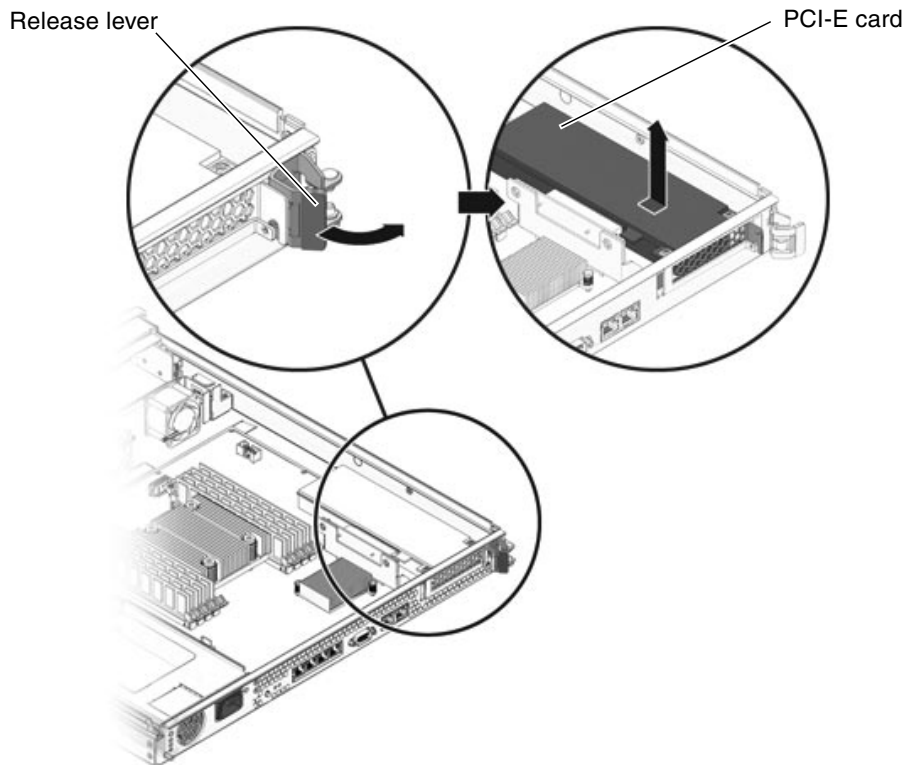

FIGURE 5-1 Releasing the PCI-Express Card Release Lever
3. On the rear of the chassis, pull the release lever that secures the PCI-Express card to the chassis (FIGURE 5-1).
3. On the rear of the chassis, engage the release lever to secure the card to the chassis (FIGURE 5-1).